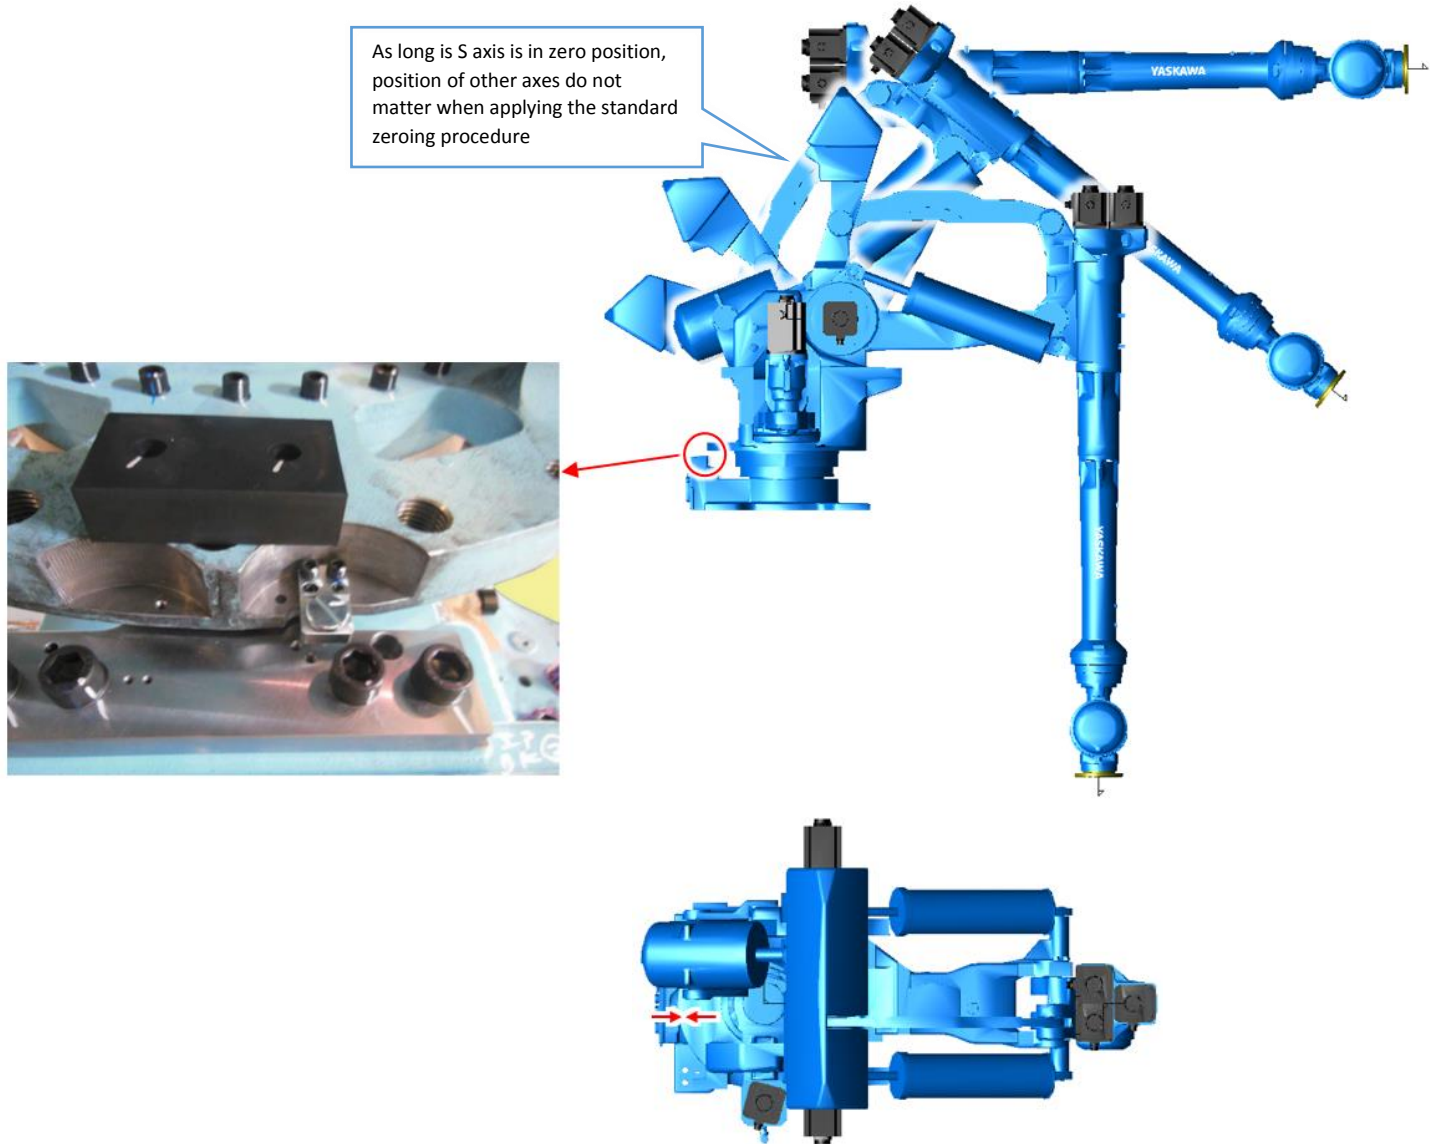

Figure 2: S-axis Zeroing Bracket Location and Alternate Zeroing Postures
- Simultaneous zero positioning of other axes (**L, U, R, B, T**) is **not required** (see Figure 2)